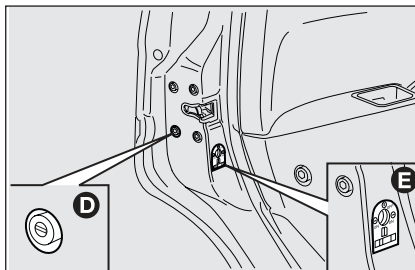

fig. 13
- cut-in of door lock device **D**-fig. 13 when the electric system is failing (e.g. run-down battery);